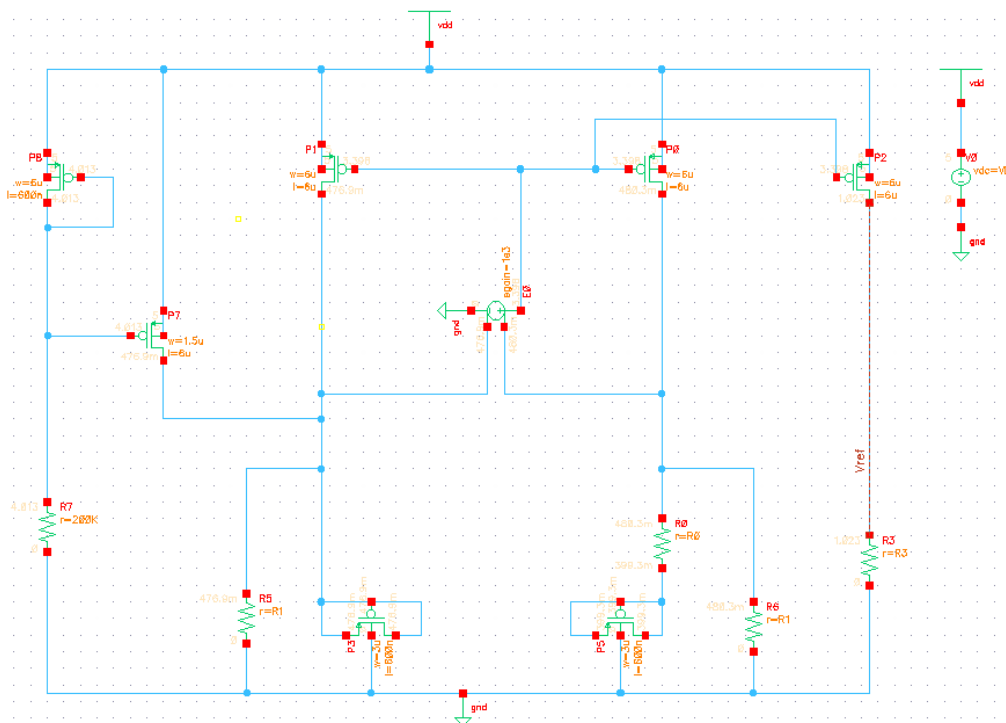

Figure 5 Bandgap reference circuit with startup circuit
4. Tune R1 to achieve zero temperature coefficient (TC) at the required temperature (such as 27 °C).
6. Add the start-up circuit as shown in Fig. 5.